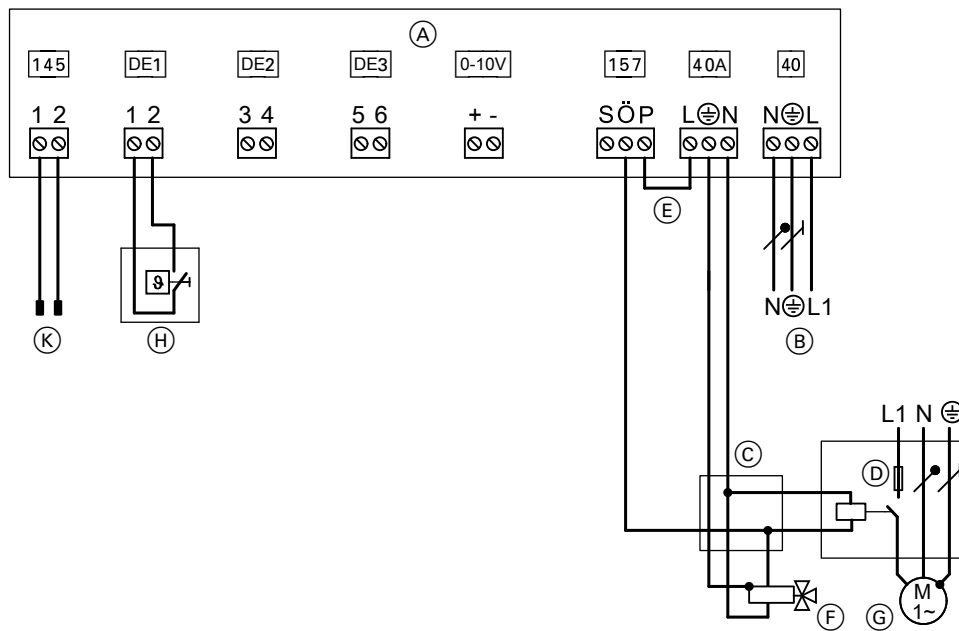

Fig. 34
- Make connections to EA1 extension **only** in accordance with Fig. 34.